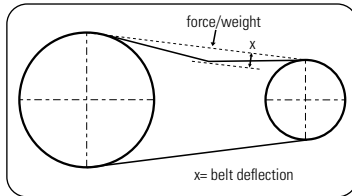

FIGURE 7.15 - BELT DEFLECTION
- Push the motor backwards until reaching the desired tension on the belt (Figures 7.15 and 7.16).
- When operating in places with a voltage different from the indicated, use a voltage transformer (not supplied with the product). Check the alignment of the pulleys and the belt tension before the first use (Figures 7.15 and 7.16).
A. Check the tension and the condition of the belt(s) (Figures 7.15 and 7.16).